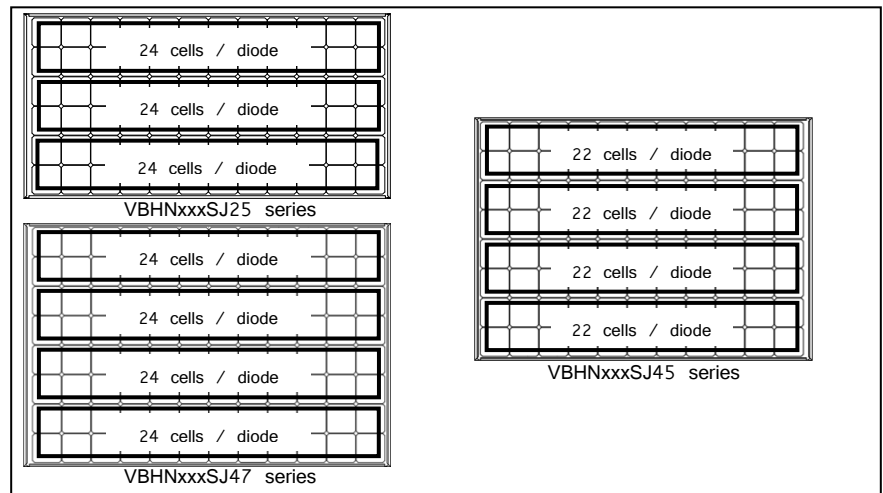

Figure 4: Number of series cells per bypass diode
- Specifications of bypass diode for VBHNxxxSJ25 series are as follows; Number of bypass diode: 3 diodes, Number of series cells per bypass diode: 24 cells / diode. Specifications of bypass diode for VBHNxxxSJ45 series are as follows; Number of bypass diode: 4 diodes, Number of series cells per bypass diode: 22 cells / diode. Specifications of bypass diode for VBHNxxxSJ47 series are as follows; Number of bypass diode: 4 diodes, Number of series cells per bypass diode: 24 cells / diode (See Figure 4).